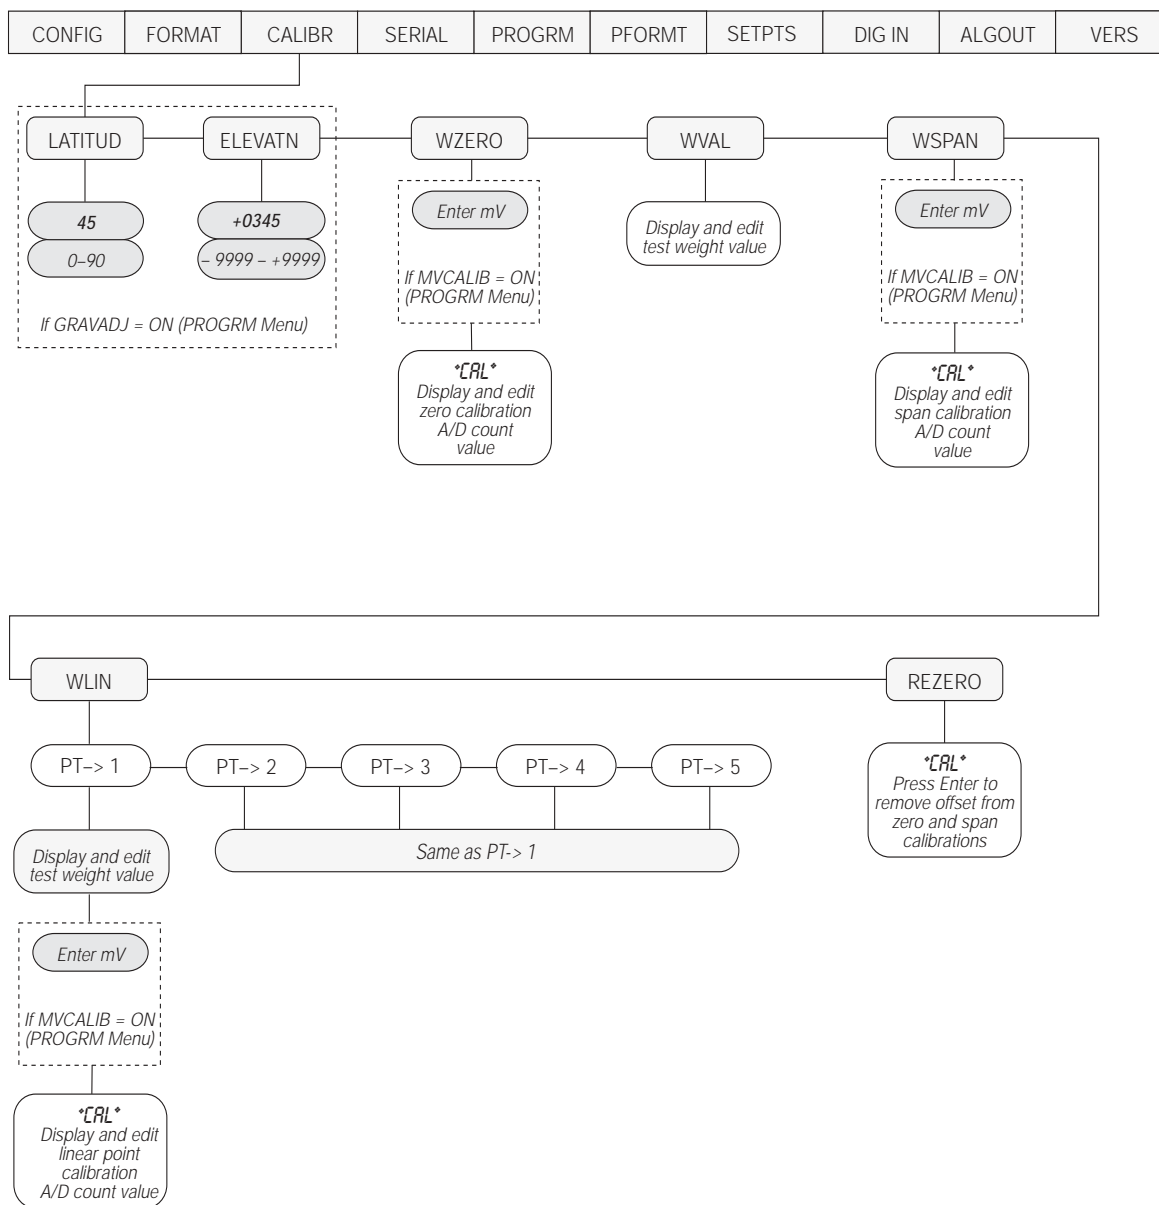

Figure 4-1. Calibration (CALIBR) Menu
2. Press \triangleright until the display reads *CALIBR* (see Figure 4-1). Press ∇ to go to zero calibration (*WZERO*).
This feature is used to compensate for the variance in gravitational pull from one location to another and is available for the 520. To calibrate with gravity compensation, the GRAVADJ parameter under the *PROGRM* menu must be set to ON (see Section 3.2.5 on page 30), and the the LATITUD (latitude) and ELEVATN (elevation in meters, relative to sea level) parameters set before calibrating the indicator (see Figure 4-1 on page 40).